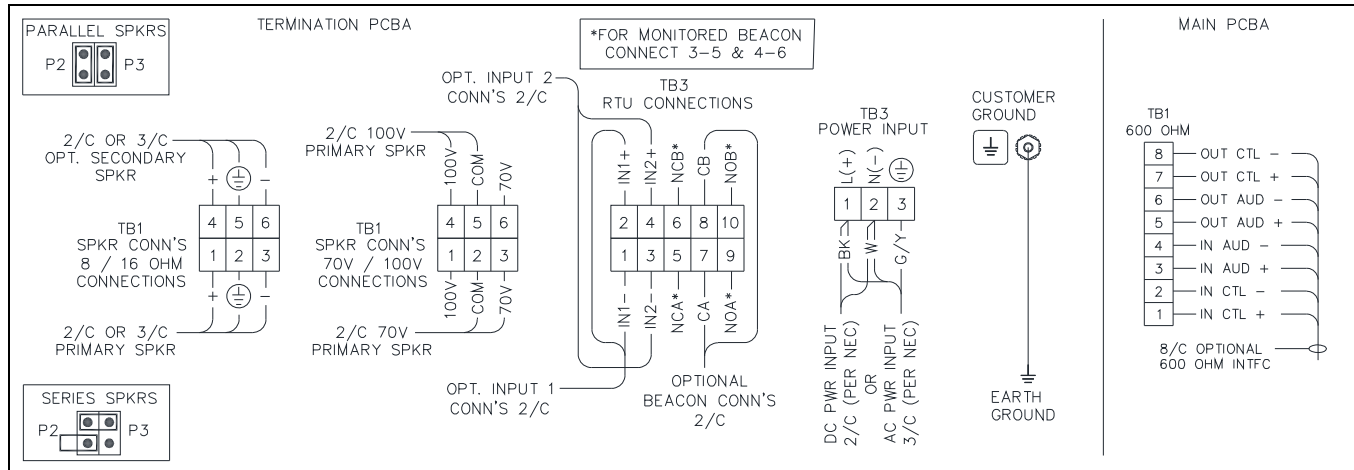

Figure 3. SP2 Connection Diagrams
1. Terminate the direct speaker connection to terminal block TB1 on the termination PCBA (see Figure 3).
1. Connect 100-volt speakers between the 100V and COM terminals on TB1. Connect 70-volt speakers between the 70V and COM terminals on TB1 (see Figure 3).
5. Terminate the RTU inputs and output to terminal block TB2 on the termination PCBA (see Figure 3).
6. Terminate the ac or dc power input to terminal block TB3 on the termination PCBA (see Figure 3).
7. Terminate the 600-ohm audio connections to terminal block TB1 on the main PCBA (see Figure 3).